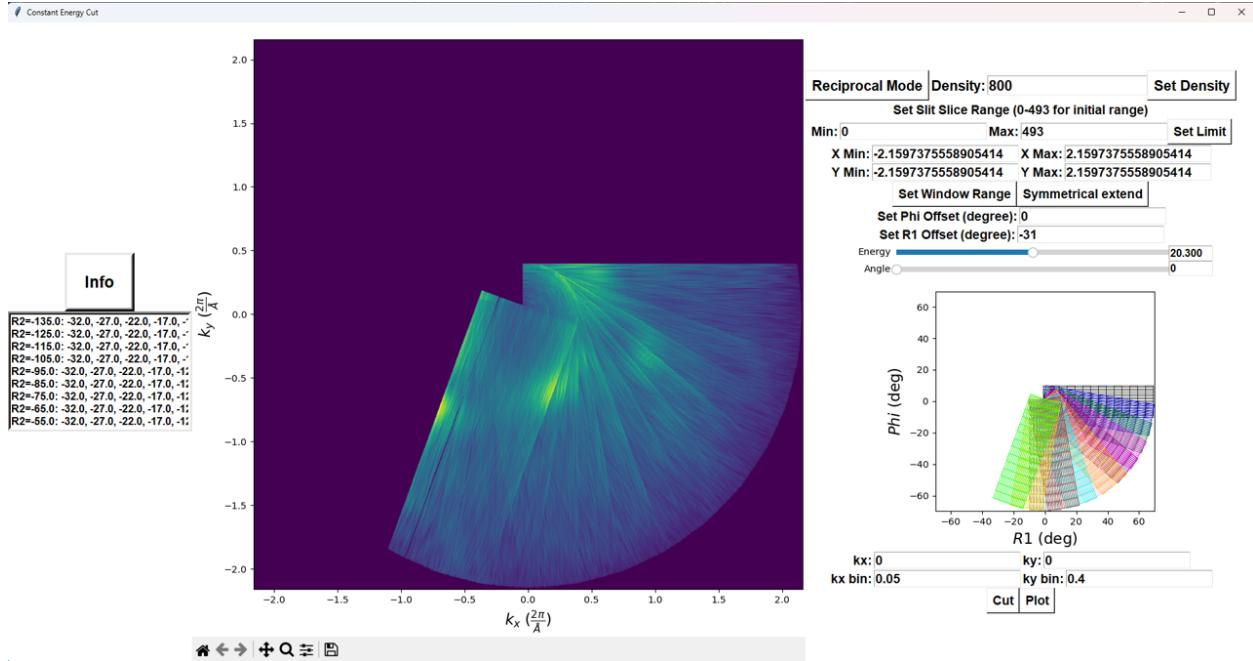

Figure 3.33: Constant energy map before symmetrical extend
Figure 3.33 shows the constant energy map before setting the symmetry. The data shows a 120-degree covered region in the k-space. As it is known that the data is from a Pt (111) surface, the symmetry could be set as **3-fold** to cover the whole k-space.